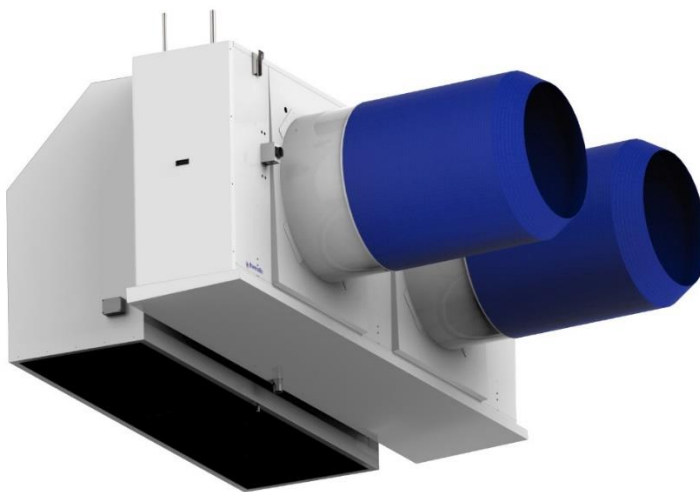

Figure 2: suction hood combined with Shut-up
- suction hood combined with Shut-up (Figure 2)